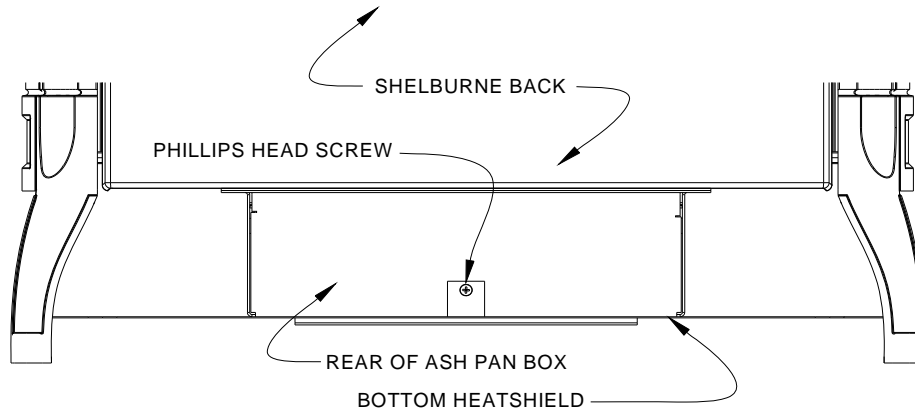

Figure 1
1. Locate the Phillips head screw at the rear of the ash pan box. Remove the screw. Slide the bottom heat shield toward the rear of the unit and remove. (Refer to figure 1)